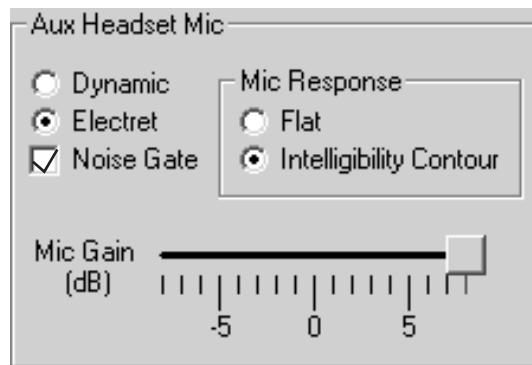

Figure 14: Main Headset Microphone Area of Headset Options Screen
3. To turn on the noise gate, click **Noise Gate** in the **Main Headset Microphone** area of the **Headset Options** screen, as shown in Figure 14.